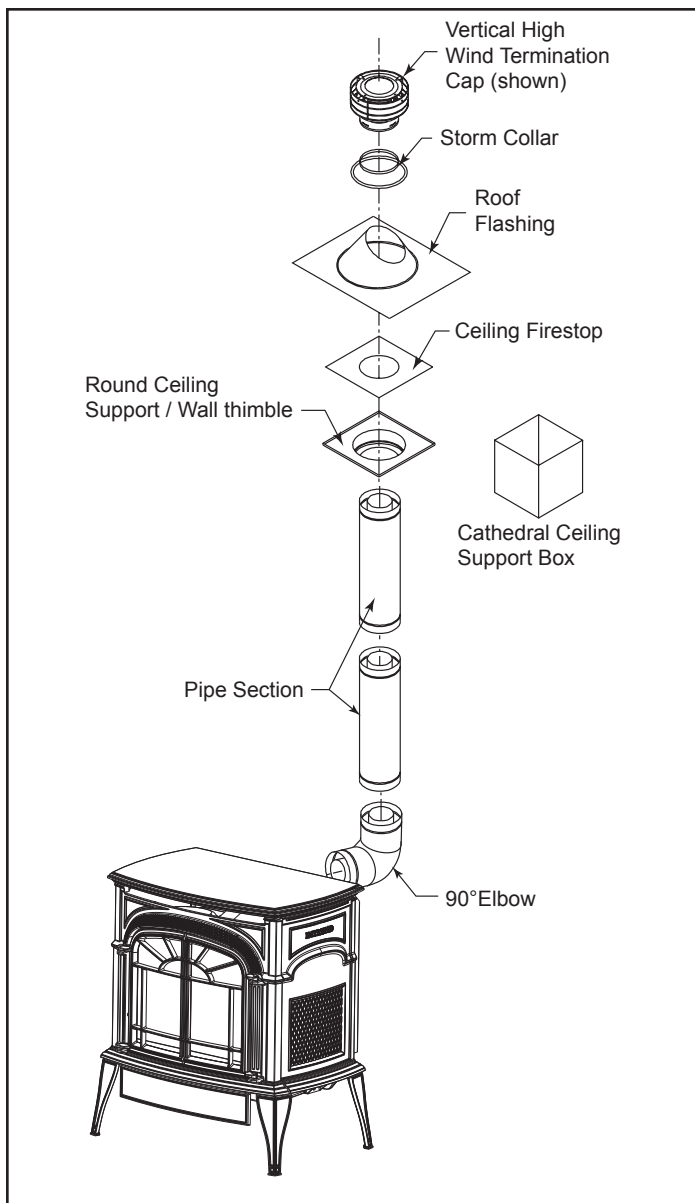
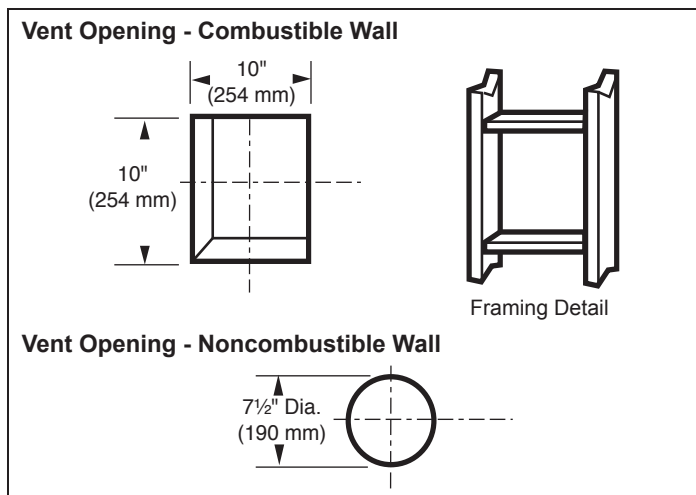

Figure 18
Figure 19 - Locate vent opening. **NOTE: Zero clearance sleeve is required for combustible wall installations.**
Vertical Terminations, Figure 18.
1. Locate the vent opening on the wall. Refer to Figures 18 & 19 to determine the top of the opening centerline. It may be necessary to first position the stove and measure to find the hole location. Depending on whether the wall is made of combustible materials, cut the opening to the size shown in Figure 19. Combustible wall openings must be framed as shown in Figure 19.